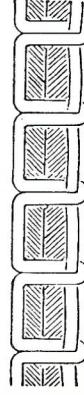

Fig. 12
- c. If tension of needle (upper) thread is too loose, or tension of bobbin (lower) thread is too tight, bobbin thread will lie straight along underside of fabric and needle thread will be pulled down to underside, being visible there in form of loops or small knots (Fig. 12). To correct this condition, make certain that the presser foot is down, then turn 'Regulating Knob to the right.'